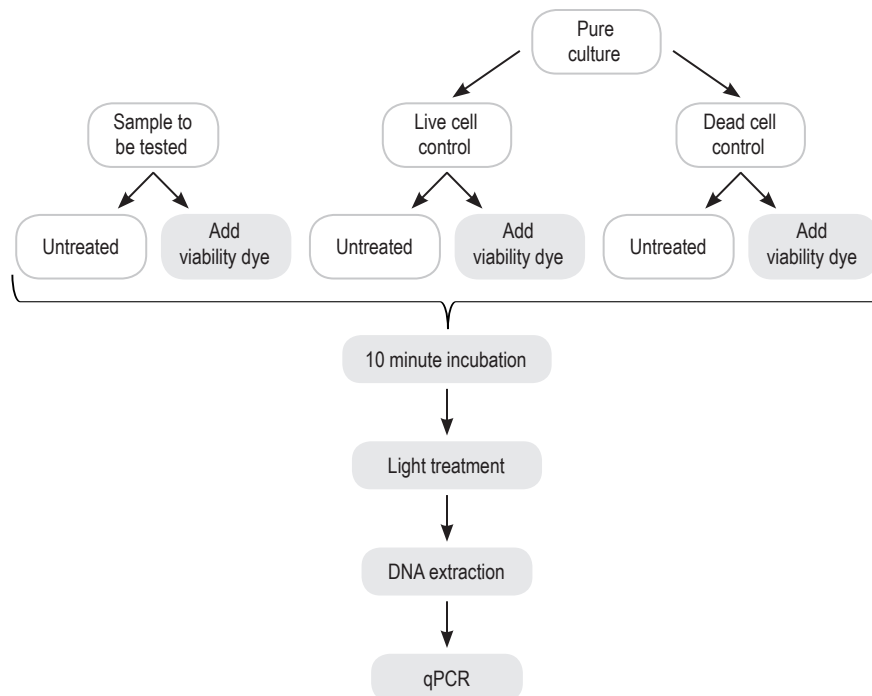

Figure 2. Viability PCR workflow overview, with recommended live and dead cell controls.
- In order to validate PMA effectiveness in your sample of interest, it is best to perform live-cell and dead-cell controls, each with and without PMA (Fig. 2). The change in Ct (dCt) caused by PMA for each control should be assessed (see "Data Analysis", p. 3).
See Fig. 2 for an overview of the procedure. This is a general protocol for treating cultured strains of bacteria with PMA or PMAxx™. It is recommended that you first perform a control experiment with live and dead controls for your selected organism. Treatment of complex samples, such as feces or soil, may require optimization of sample dilution, dye concentration, and light treatment time. Treatment of dilute samples, such as water testing, may require filtration or concentration before dye treatment.
- Pipette 400 uL aliquots of bacterial culture into clear microcentrifuge tubes. For each sample you will need one tube for PMA/PMAxx™-treated cells and one tube for untreated (no dye added) in order to calculate dCt (see Fig. 2, "Considerations for viability PCR" #8, and "Data Analysis" for details).